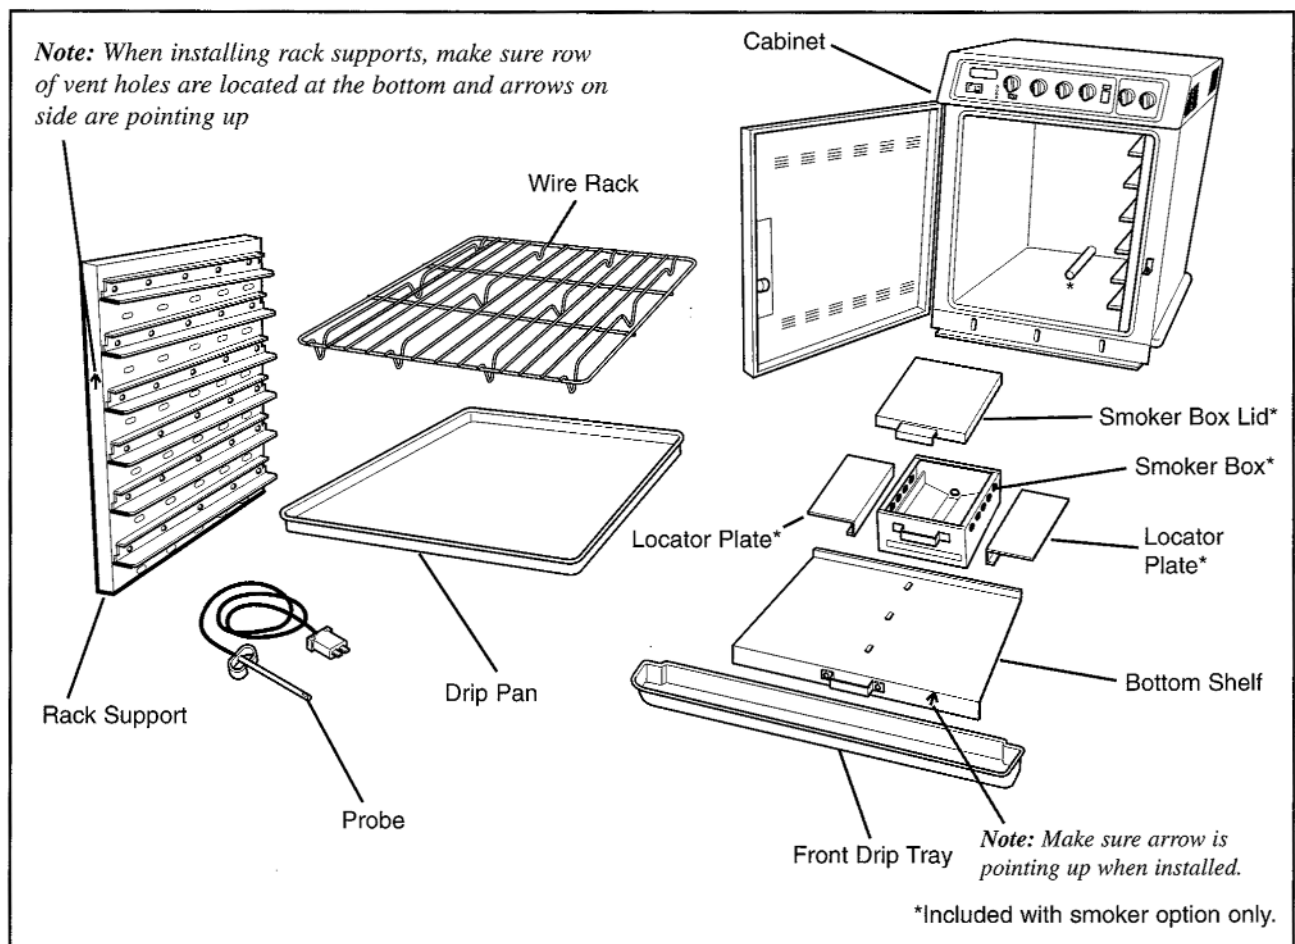

Figure 5. Exploded View - CS2-5S Shown
3. Install parts as shown in Figure 5.
Food pans and wire racks should be removed and washed. Rack support wall panels and bottom shelf should also be removed for periodic cleaning. Refer to Figure 5 for proper installation.